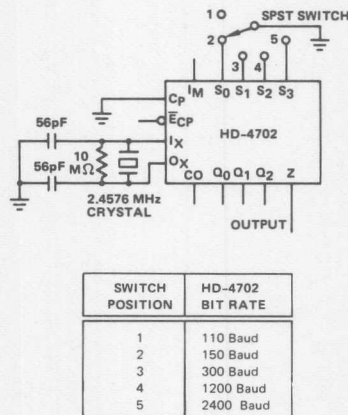

FIGURE 1
Figure 1 shows the simplest application of the HD-4702. This circuit generates one of five possible bit rates as determined by the setting of a single pole, 5-position switch. The Bit Rate Output (Z) drives one standard TTL load or four low power Schottky loads over the full temperature range. The possible output frequencies correspond to 110, 150, 300, 1200, and 2400 or 3600 Baud. For many low cost terminals, these five bit rates are adequate.